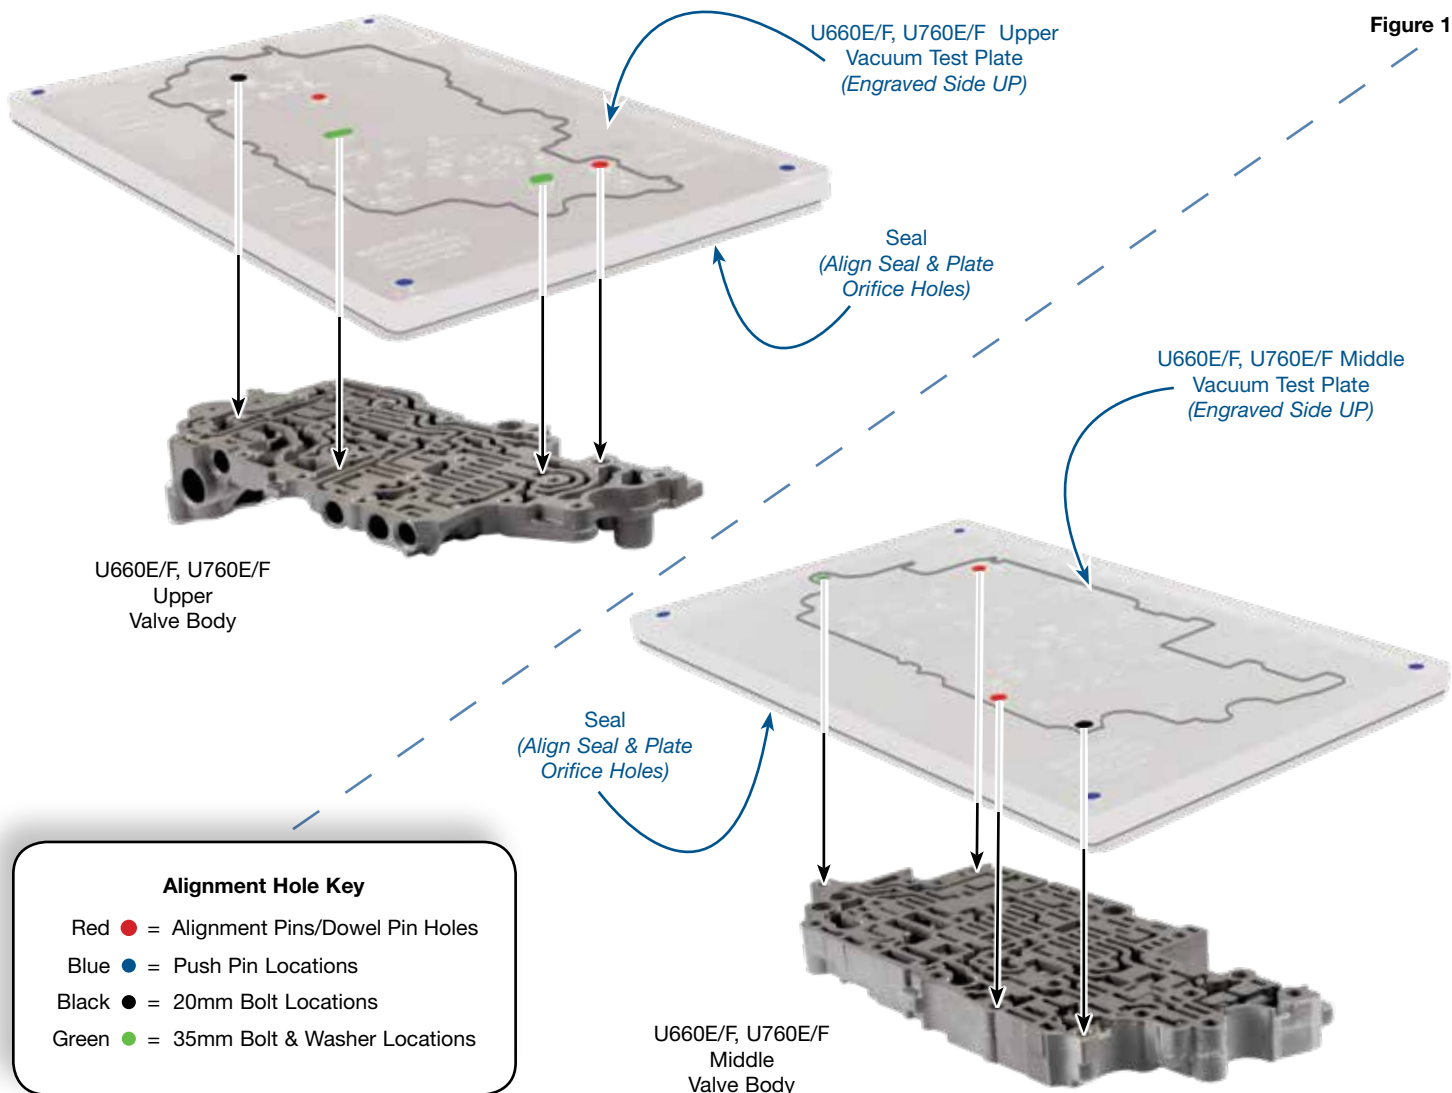

Figure 1
- Install two alignment pins into each plate at indicated threaded holes. Thread into non-engraved side of plate (**Figure 1**).